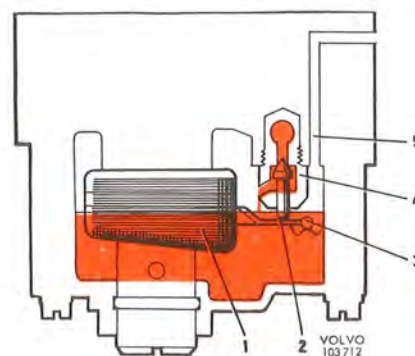

Fig. 2-51. Float system
Fuel flows into the floatchamber via the float valve (4, Fig. 2-51). The float (1), which is made up of twin expanded rubber floats, is carried on a bridge on the lower side of the carburettor housing. As the fuel